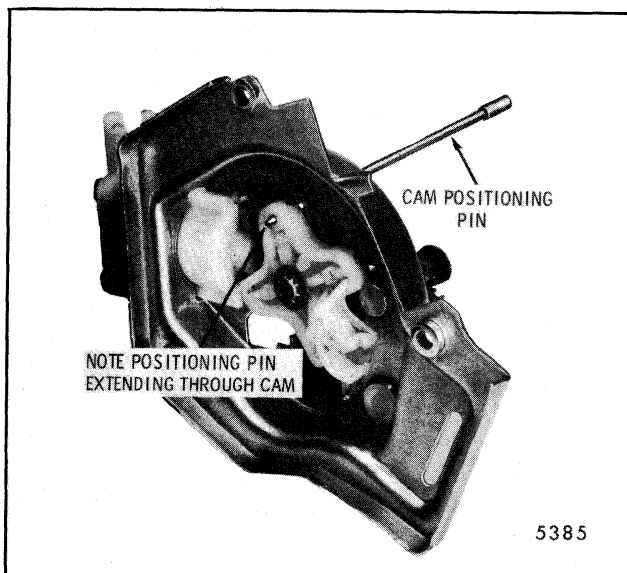

Fig. 2-107-Cam Alignment Pin Installation
2. Rotate the 4-lobe cam until index hole (.125" dia.) in the cam is aligned with the hole in the pump mounting plate. Insert a pin through both holes to maintain cam in position (Fig. 2-107).
3. Position pump on wiper so that slot in 4-lobe cam fits over the gear drive pin which is part of the lock pawl (Fig. 2-107). Secure pump to gear